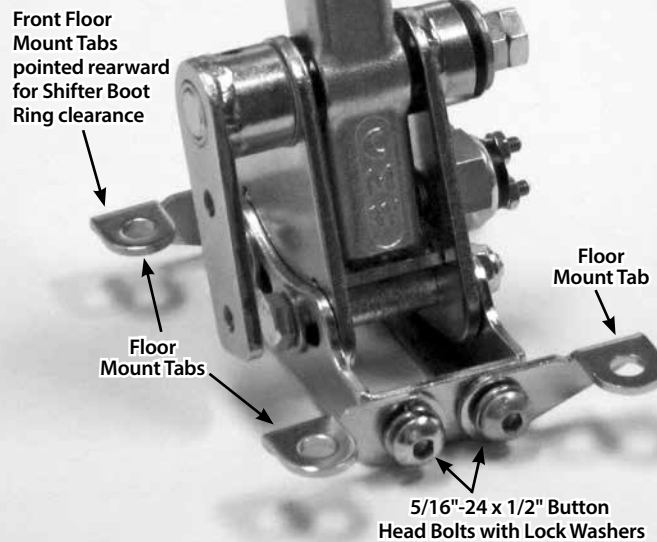

Fig. 9
**Step 11:** There are two pairs of floor mount tabs in the Shifter Kit. Which pair goes where will depend on if you are mounting the Shifter above or below the floor. See Fig. 9 to determine how the floor mount tabs need to be positioned for your particular application.
Attach the floor mount tabs to the floor mount mounting bracket as shown in Fig. 9 with the 5/16"-24 x 1/2" button head bolts and lock washers. Leave the bolts loose enough so that adjustments can be made later during the installation.